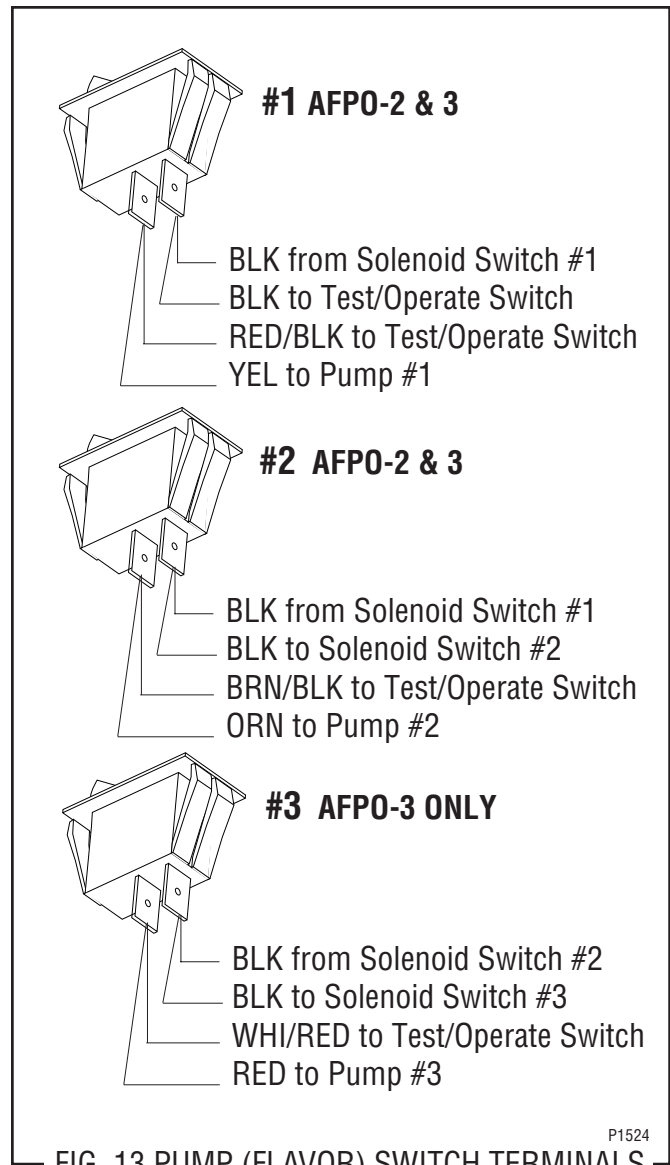

FIG. 13 PUMP (FLAVOR) SWITCH TERMINALS
5. Refer to Fig. 13 when reconnecting the wires.